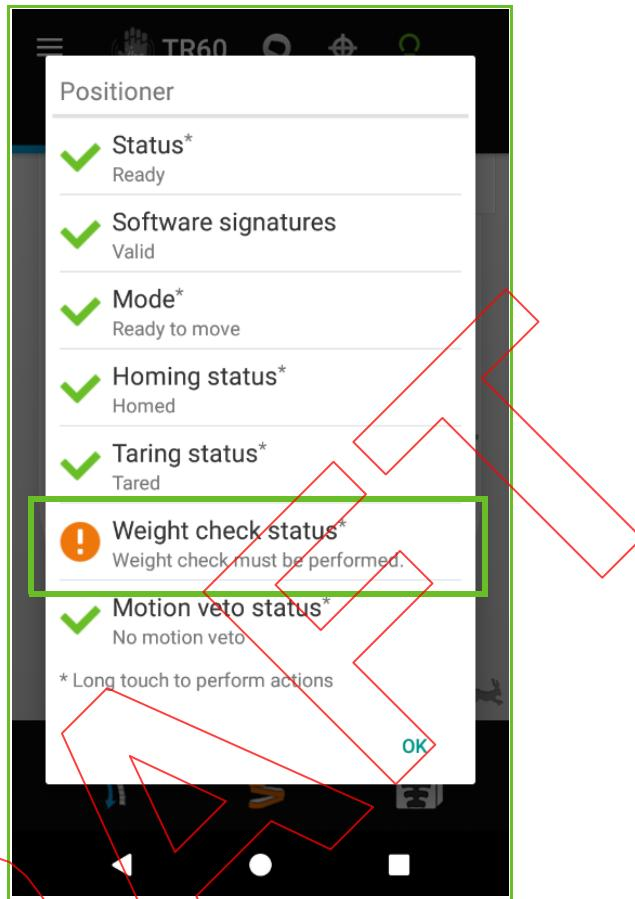

Figure 46-7. Automatic weight check - Positioner screen
1. Long touch on PPS icon in hand pendant for the POSITIONER screen. The **Weight check status** is orange (Figure 46-7).